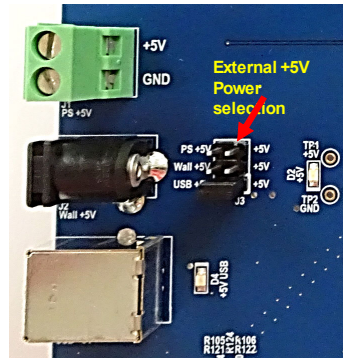

Figure 6. External +5 V Power and Selection Circuit
The power supply section of the CEVB provides flexibility to apply +5 V power to the board via three optional sources: (1) USB, (2) wall-wart, (3) lab dc power supply. Figure 6 shows the connectors for these three power sources and the power selection jumper (J3). Refer to Schematic page 3 (see 9. “Schematics and BOM” on page 33 for URL).